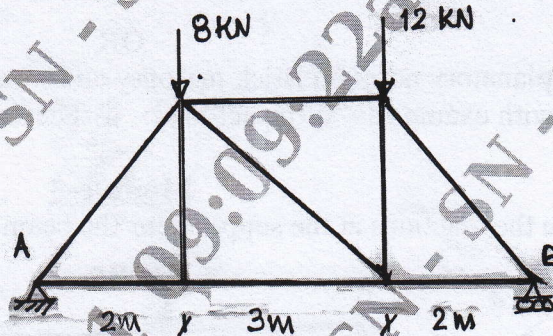

Fig Q10(b)
b. Calculate the reactions at the supports for the truss shown in Fig Q10(b).